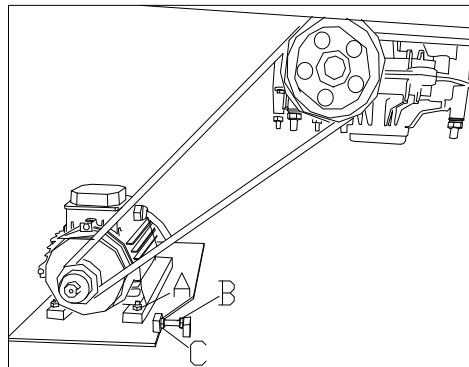

Fig 11-2
- Release the bolt A and nut C. Adjust the adjust bolt B at the back end of the motor bracket. Tighten the belt as Fig11-2. The requirement to the tension of the belt is that the belt will move inward by 8mm if you apply the force of 8kg.